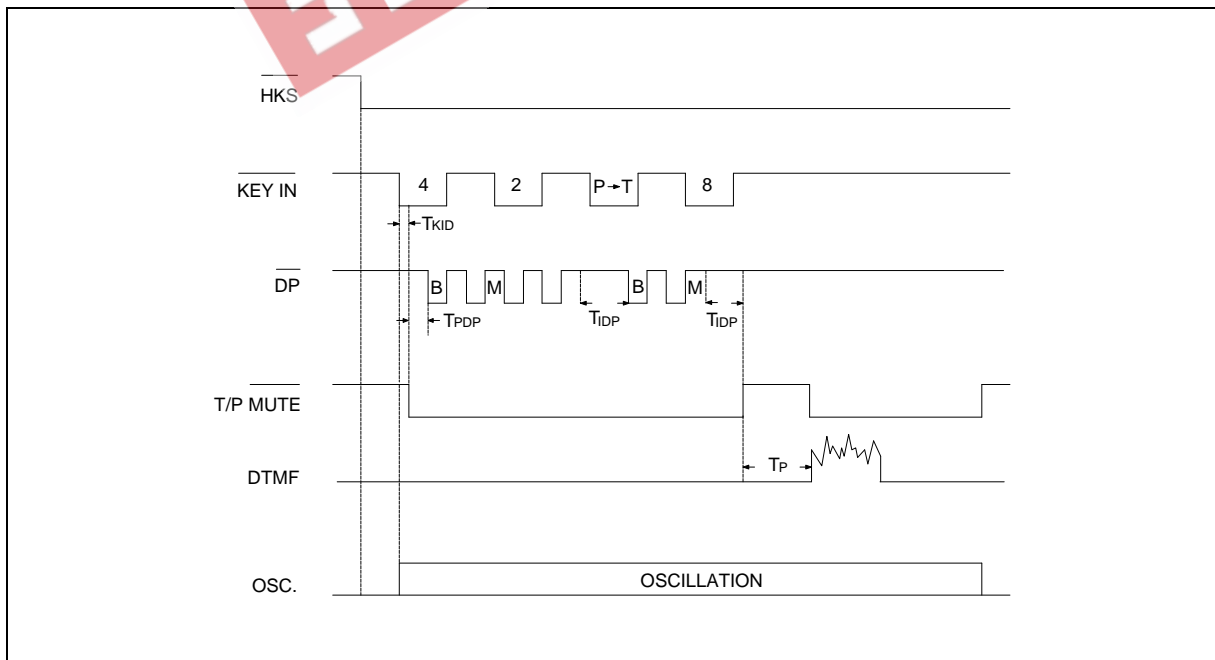

Figure 4. Pulse-to-Tone Function Timing Diagram
4. The P→T function timing diagram is shown in Figure 4.